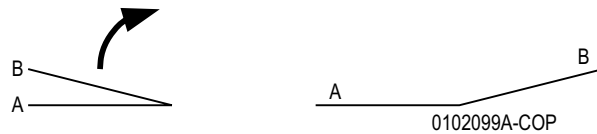

Figure 1 Staple Position
11. Measure X1 and verify against specification in Figure 1.